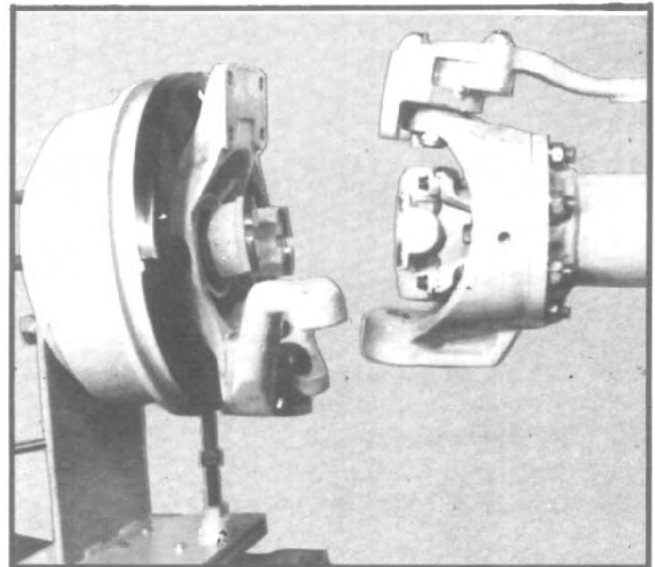

Fig. 22
4. Attach the outboard section of the steerable drive end to a transmission jack that is equipped to handle the assembly. (See figs. 22 and 23.)